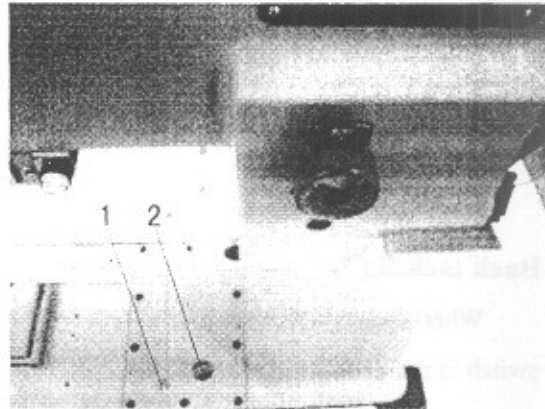

Fig.17
- (1) Check the oil level at the sight glass 2 of Fig.17 every week. If the oil is not enough, remove oil-filling screw 1 and pour in oil. Check oil level at sight glass 2. The oil level must be between "EMPTY" and "FULL". Replace oil-filling screw 1. After running for 500 hours since buying the new sewing machine, the oil must be changed. Then change the oil every two years.